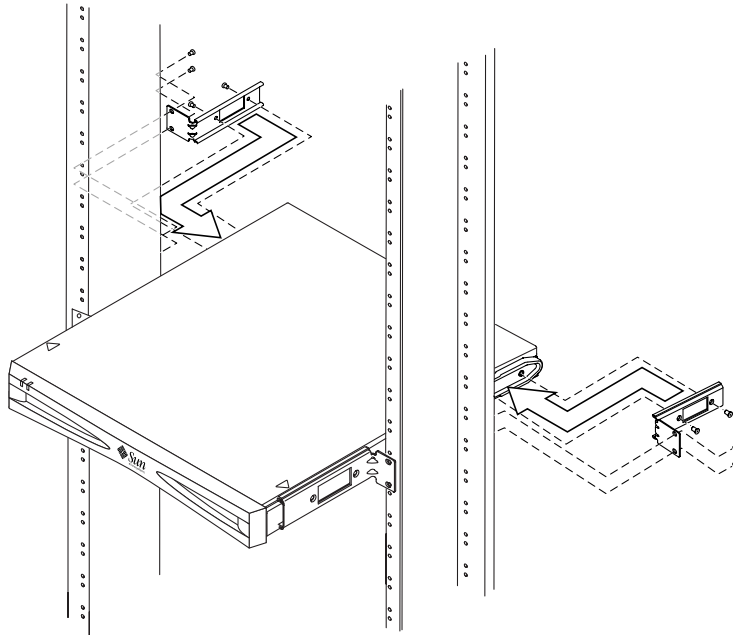

FIGURE 2-16 The PCI System Expander Installed in a Two-Post Relay Rack
- 5. Secure the rear brackets to the rack in the appropriate place, as shown in FIGURE 2-16.**